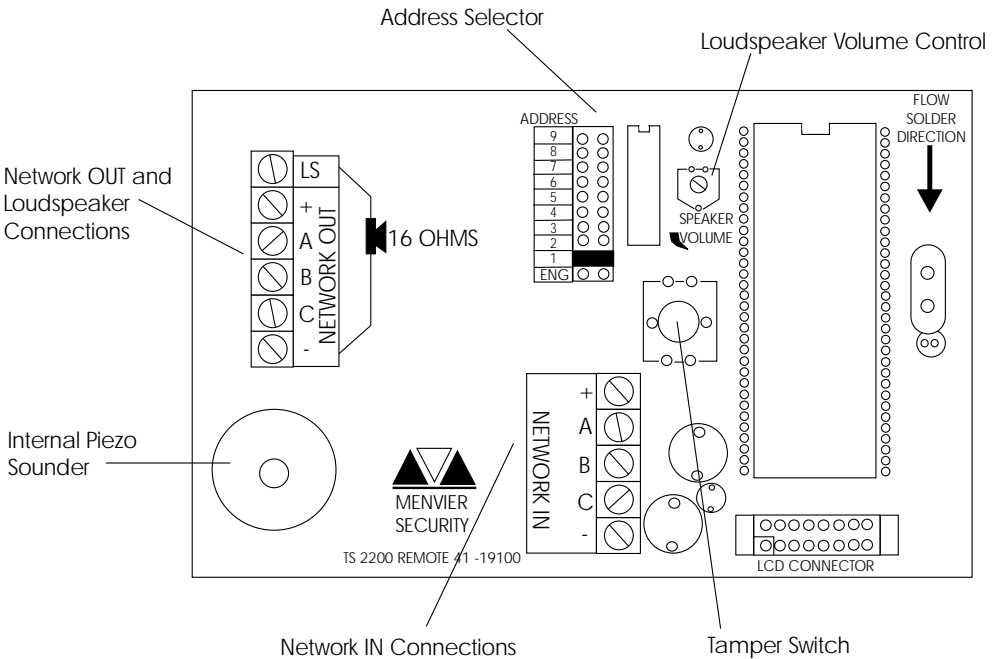

Figure 6 Remote keypad PCB layout and connections
- 3) Connect network cables to the appropriate IN and OUT terminals (Figure 6).
- 4) If required connect a loudspeaker (min 16 Ohms) between "LS" and "-" terminals. Note: The loudspeaker will only function if there is 12V on the Network "+" terminal (figure 6). The volume of the loudspeaker may be adjusted using volume control pot. Note: only the system advisory tone will be affected by the volume control pot.